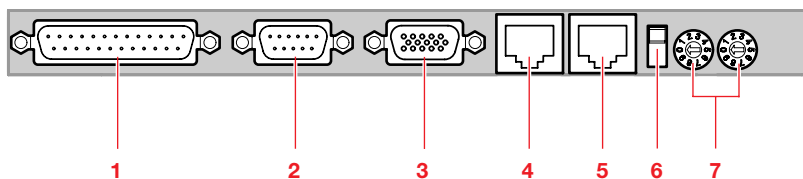

Fig. 3: Terminal block
- 6 Terminal block (see Fig. 3)